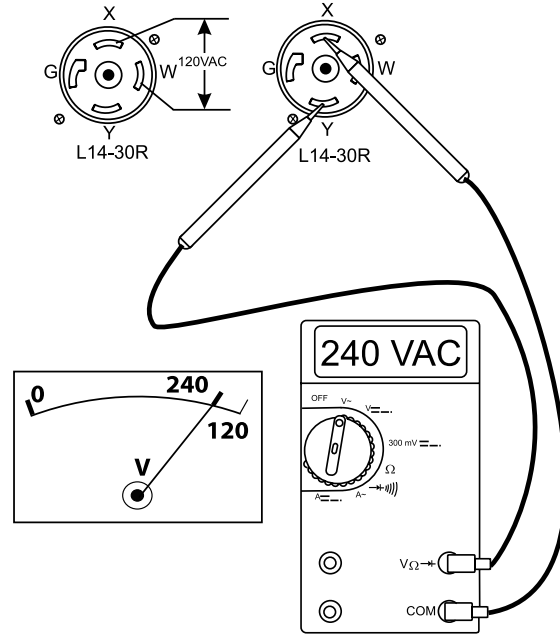

Figure 32. 120/240V L14-30R Receptacle
5. The L14-30R receptacle is a dual voltage receptacle (120/240 volts). Using an external voltmeter as shown in Figure 32, verify that 120/240 VAC is present at the L14-30R twist-lock receptacle.